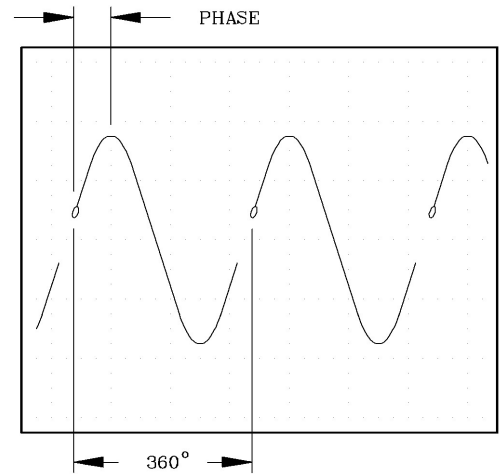

Fig. 3.4
10. Remove the phase signal from channel B. Connect the phase signal into the external input and to the Z-axis input of the oscilloscope. The oscilloscope display should now resemble Figure 3.4 where the phase signal has produced a bright spot and a blanked area onto the vibration signal (adjust the oscilloscope screen intensity if the bright spot is not visible).